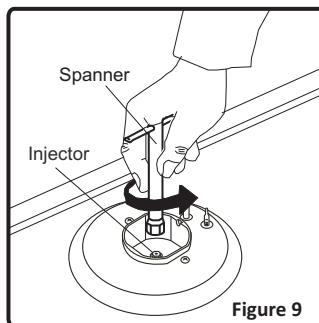

Figure 9
- Unscrew the injectors. For this, use a 7mm spanner (Figure 9).